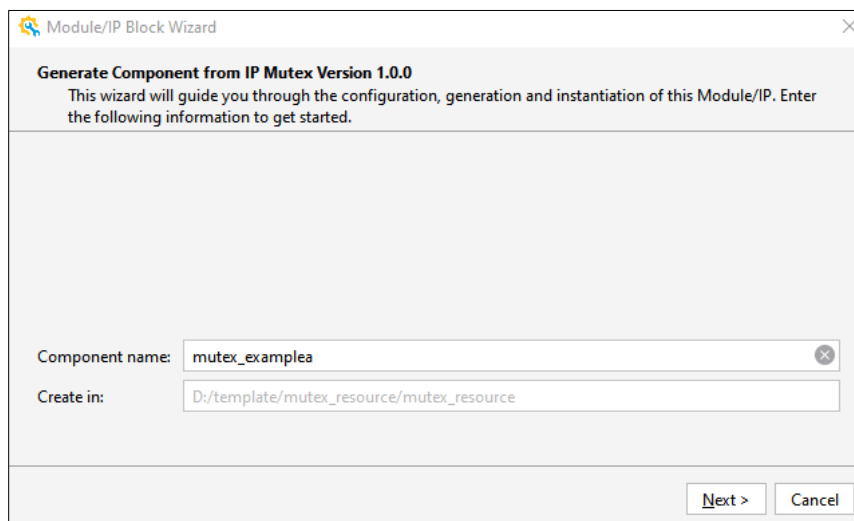

Figure 3.1. Entering Component Name
2. Enter the component name. Click **Next**, as shown in Figure 3.1.